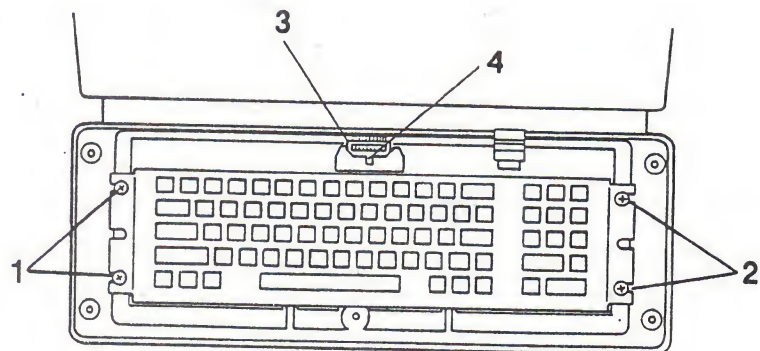

FIGURE 9
6. Remove the two retaining screws on the left end of the keyboard. (See Figure 9, Item 1).
7. Loosen but don't remove the two retaining screws on the right. (See Figure 9, Item 2).
9. Disconnect the keyboard cable (See Figure 9, Item 3) by using a screwdriver to push on the tab or the sides of the cable connector (See Figure 9, Item 4).